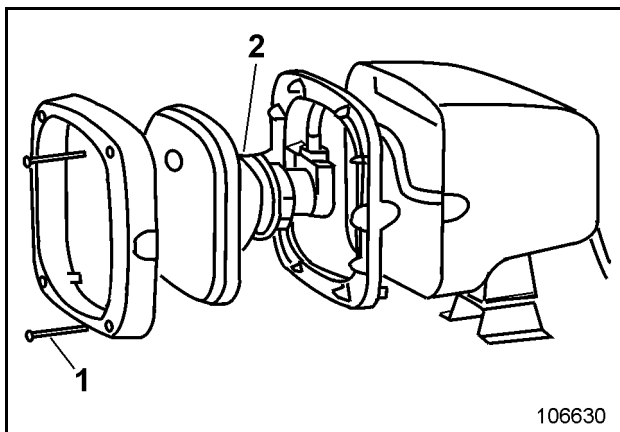

Fig. 3-31
- Remove four screws (1, Fig. 3-31) and withdraw the reflector (2) from the projector housing.